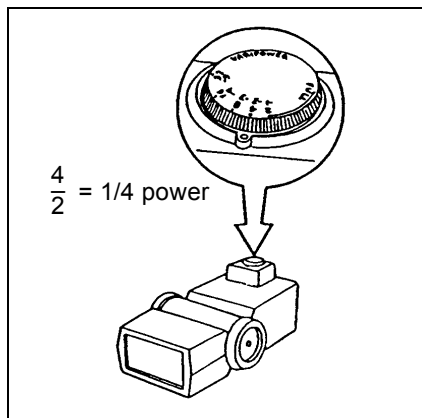

Figure 7-4. Strobe Power Dial
8. Verify that the strobe is set to one quarter power (Figure 7-4).